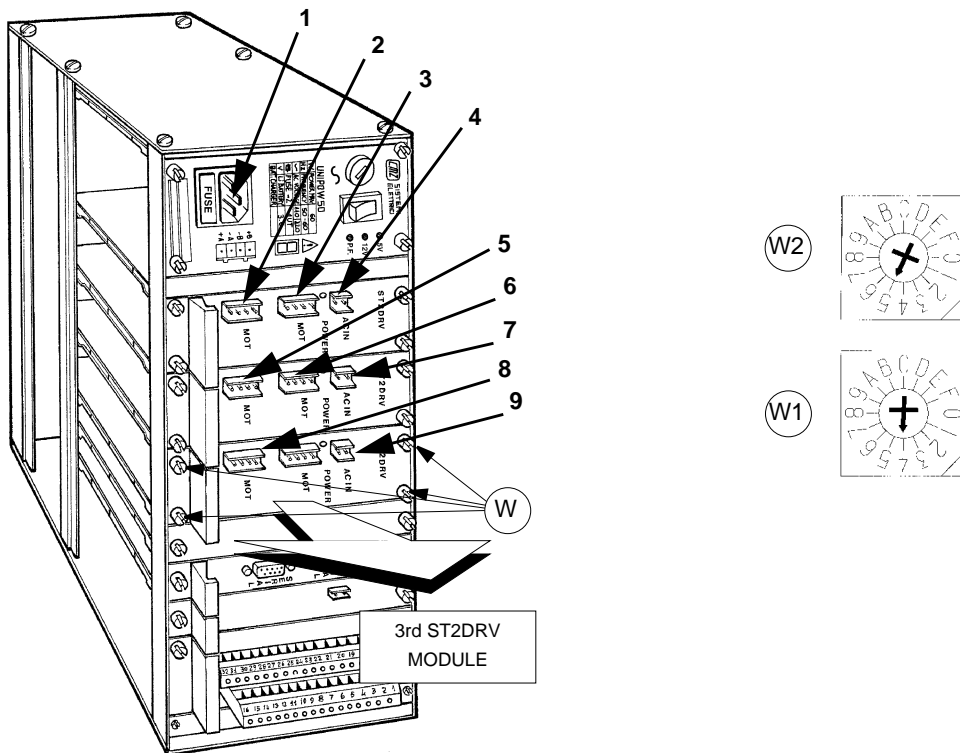

Fig. 38
- 5) loosen the four screws (W) securing the module (it is not necessary to remove them) (fig. 38).
- 6) slide the module from the rack and replace with a new one after positioning the commutator (W3) (fig. 38).